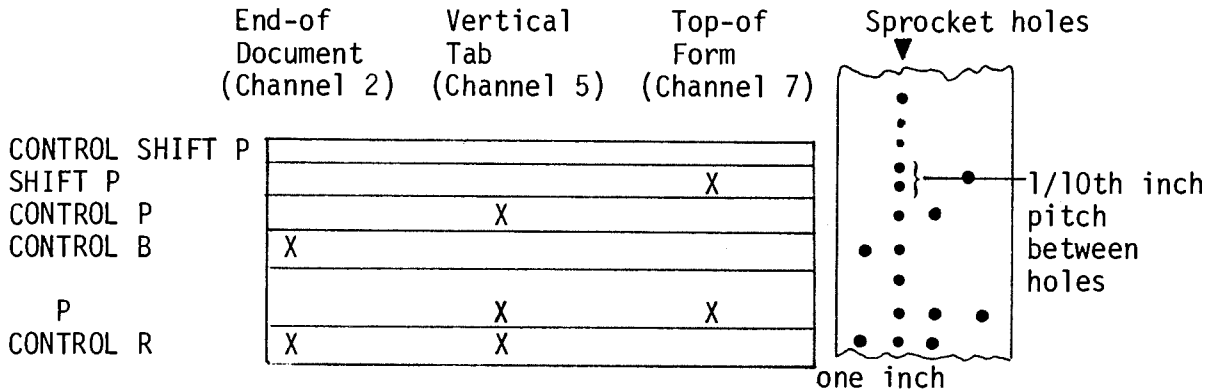

Figure 5.1 Vertical Format Tape
5. For an End-of-Document hole (in channel 2), press and hold CONTROL key, then press B (see Figure 5.1).